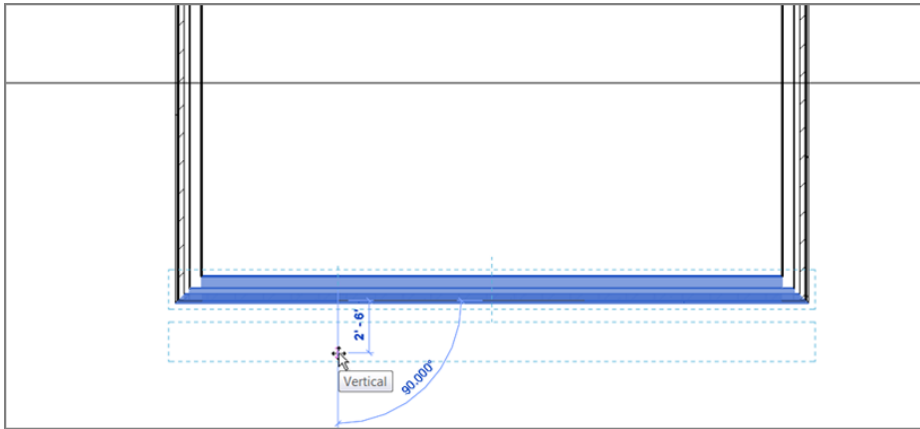

FIGURE 4.3: Moving the wall 2'–6" (750mm) also means that any adjoining walls will be adjusted along with it.
8. Type in the value 2'-6" (750mm), and press Enter. The wall moves 2'-6" (750mm). Notice that the adjacent walls move with it. In Revit, there is no stretch command (see Figure 4.3).